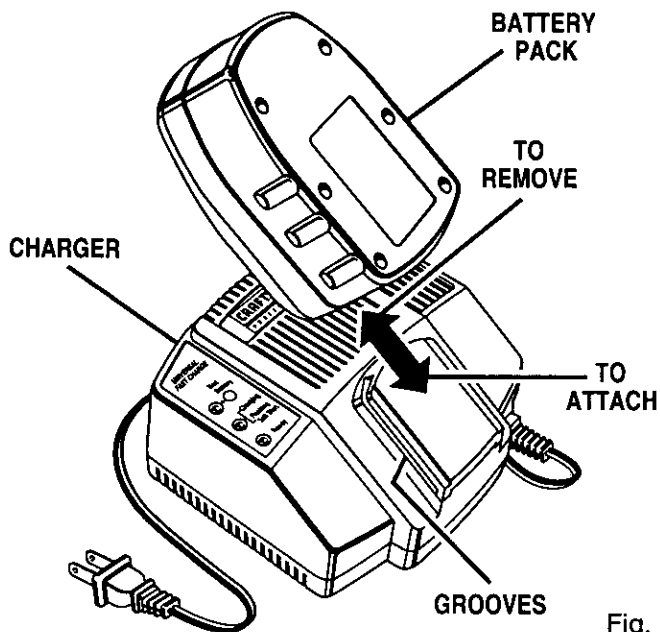

Fig. 8
- Attach battery pack to charger by aligning raised ribs on battery pack with grooves in charger, then slide battery pack onto charger. *See Figure 8.*